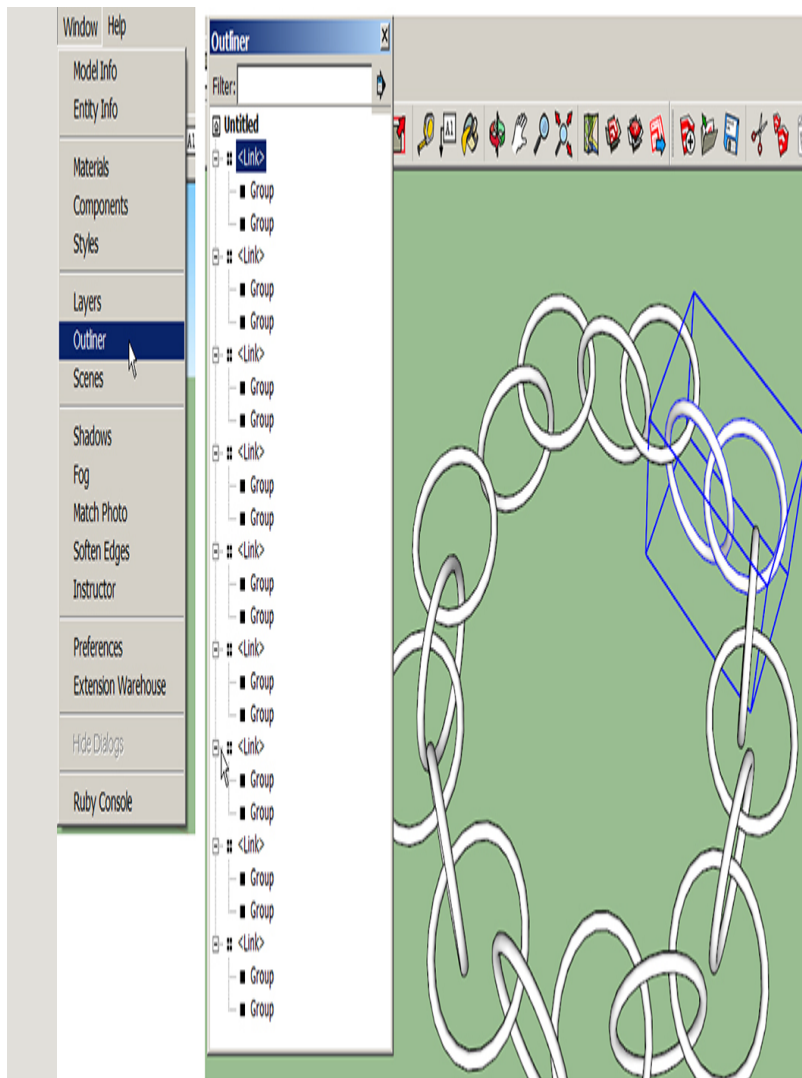

Figure 3-44 The Outliner shows a hierarchical tree of groups and components. This is a hierarchy outline of the bracelet.
- Click on Window > Outliner to see a hierarchical tree of all components and groups (Figure 3-44). Click on an entry in the outliner to select it in the model. This is useful when there are nested groups and components, as it removes the need to drill down through them all to reach a specific one. Figure 3-44 is the outline of the bracelet; you can see that each link is a separate group, and two links form one component.